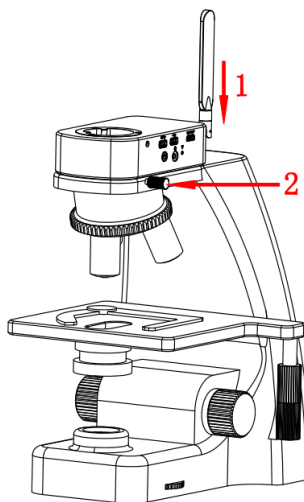

Figure 2
- 1) Place the smart embeded camera on the top of the microscope objective, as shown in figure 2;